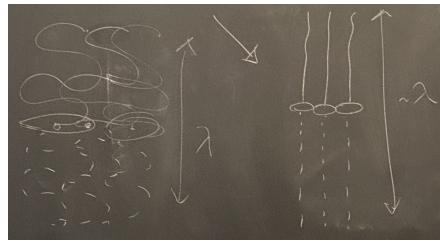

Figure 2.23: Structural changes as diblock copolymers are stretched.
- This also means that the left sketch in Figure 2.23 is mislabeled: It should be  $\lambda/2$ , which is also the expected length of a single chain in the microphase separated state.
- Enthalpy goes way down when you have linear strands (as on the right side of Figure 2.23), since this puts most monomers closer to each other on average than they are to monomers of the opposite component.
- Similarly, enthalpy goes way up when everything squishes near the IMDS (as on the left side of Figure 2.23). This is because in this case, the interfacial area per chain  $\Sigma$  gets way bigger.